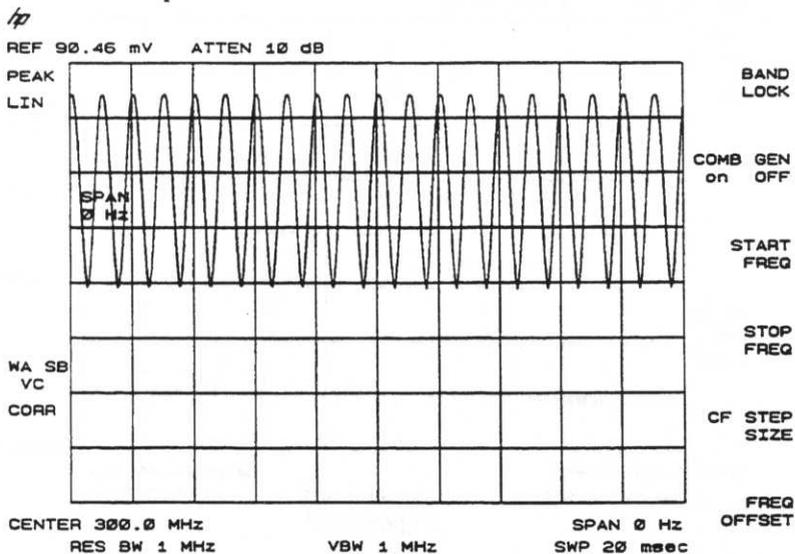

Figure 2-21
5. To select zero span, press **SPAN, 0 Hz**. See Figure 2-21. If the modulation is a steady tone (for example, from a signal generator), use video trigger to trigger on waveform and stabilize the display. Adjust the sweep-time to change the horizontal scale. Use markers and delta to measure time parameters of the waveform.